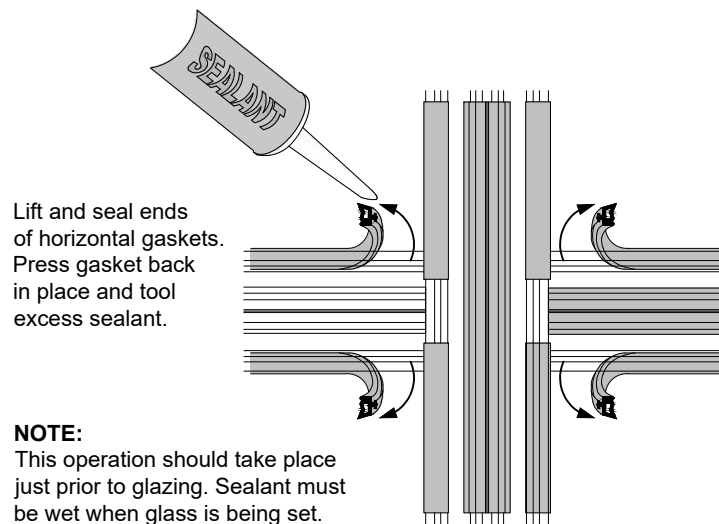

Fig. 49.1
- E. For SSG vertical applications, install into vertical mullion with equal overlap into each horizontal pocket. See **Fig. 49.1**.
- A. Pull interior horizontal gaskets away from vertical gaskets and seal corners where gaskets abut. Release horizontal gasket back to its original position. See **Fig. 49.1**.